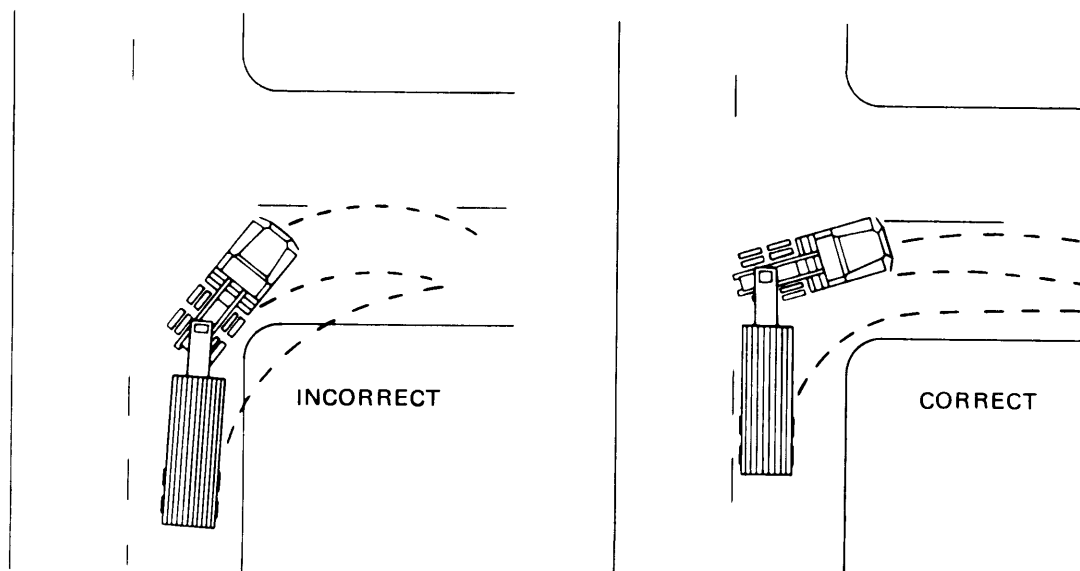

Figure 2-20. Turning
- (1) Driving. When driving the towing vehicle and semitrailer, the overall length of the unit must be kept in mind when passing other vehicles and when turning. Because the unit is hinged in the middle, backing is also affected. The semitrailer's payload will affect stopping and off-road maneuverability.
- (2) Turning. When turning corners, allow for the semitrailer wheels turning inside the radius of the towing vehicle. Make a right turn by driving the towing vehicle about halfway into the intersection and then cutting sharply to the right. This will keep the semitrailer off the curb (fig. 2-20).
- (3) Stopping. The brakes of the towing vehicle and the semitrailer are applied at the same time in normal operation when the driver steps on the brake pedal. Brake pressure should be applied gradually and smoothly. The semitrailer brakes may be applied separately by using the semitrailer handbrake control lever on the steering column. On steep downgrades or slippery surfaces the semitrailer brakes should be slowly applied before the towing vehicle brakes. This will reduce the possibility of jack-knifing the semitrailer.
- (4) Parking. When the towing vehicle and the semitrailer are to be parked and left unattended, set the parking brake on the towing vehicle and apply the brakes on the semitrailer. Turn off the towing vehicle's engine before leaving the cab. Block the semitrailer wheels with chock blocks.